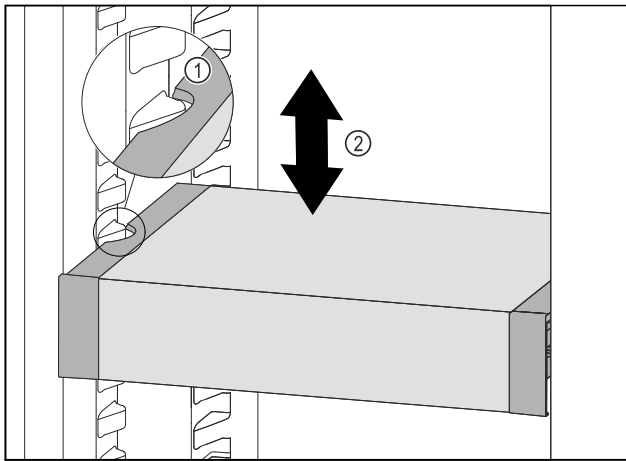

Fig. 93
- ▶ Pull VarioSafe forwards until the recesses in the side of the VarioSafe are at the level of the support rib in the refrigerator compartment. *Fig. 93 (1)*
- ▶ Move VarioSafe up or down in the refrigerator compartment until the desired height is reached. *Fig. 93 (2)*